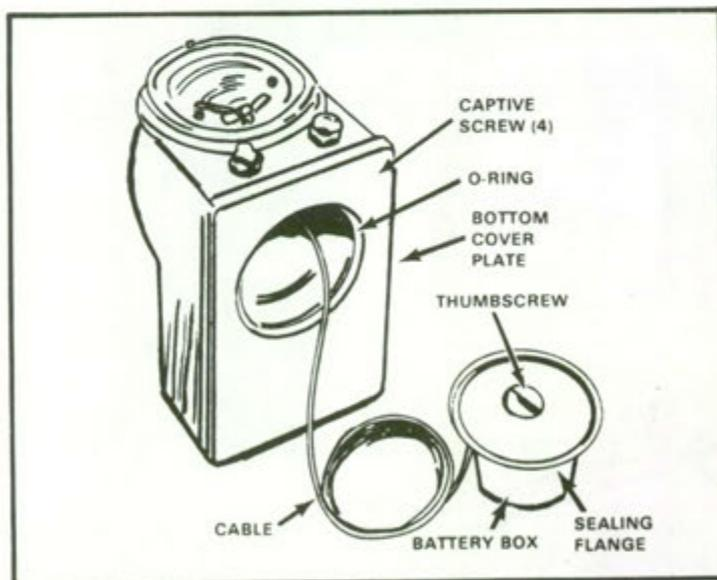

Figure 8. Radiacmeter, bottom view, battery box removed.
- b. Loosen the thumbscrew (turn it toward the left) on the battery box (figure 8) from the recess in the bottom cover plate of the radiacmeter. Do not place any excess strain on the cable.
- c. Press down on the lock plate (figure 8), turn it to the left, and lift it off the battery box.
j. Wrap the cable (figure 8) around the battery box. Be sure that the cable is wrapped snugly and flush against the sealing flange (no more than one layer of cable) of the battery box.